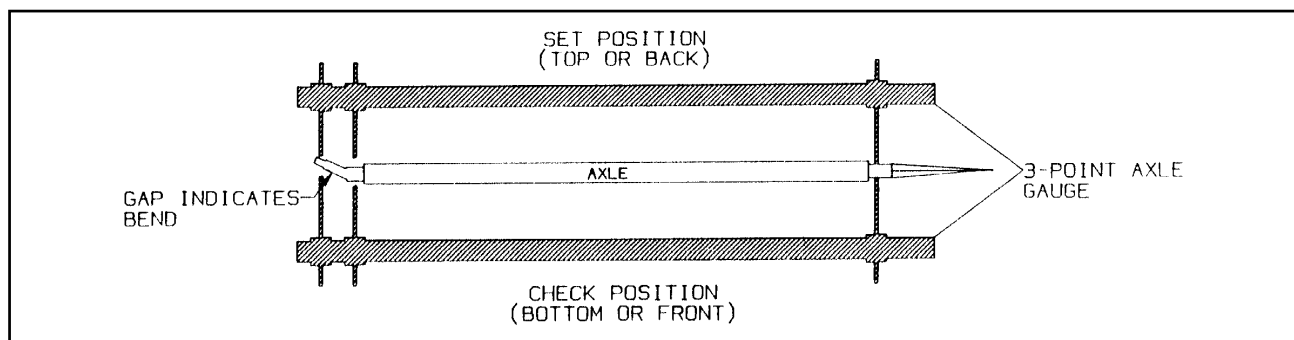

Figure 4-8 Checking Axle for Bend
- b. Place a 3-point axle gauge against the front side of the axle, and adjust each axle gauge point to the axle. (Double point end against the inner and outer wheel bearing surfaces of the spindle being checked and the other point on the inner bearing surface on the other spindle.)(See Figure 4-8).
- c. Move the axle gauge and place against the back side of the axle. If either of the points of double point end fails to touch the axle surface, a bent spindle is evident. A point gap of .015" or more is considered excessive tire "toe" and the axle must be replaced (See Figure 4-8).